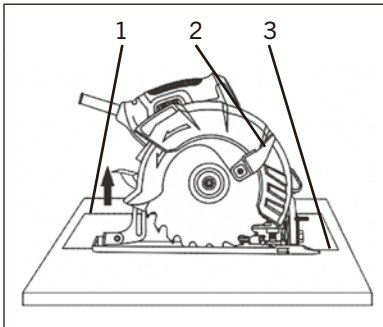

FIG. 11
4. Set the saw on the workpiece (1) so the sole plate is flat on the workpiece. (Fig. 11).
5. Open the blade guard by rotating the blade guard lever (2) forward.
6. Align the saw blade with the cutting line (3) using the 0° cutting mark on the sole plate.